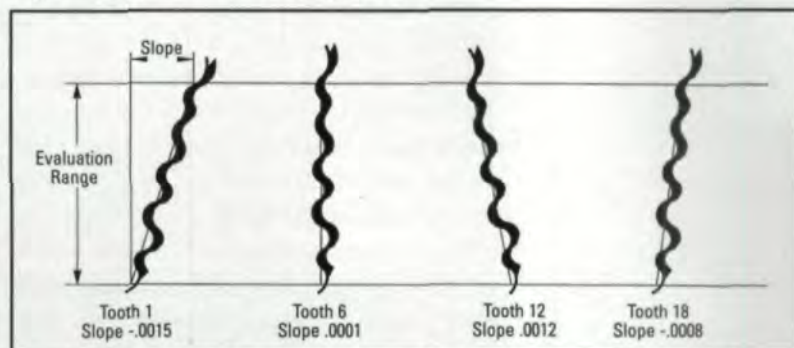

Fig. 3—Excessive slope variation can result from a fixture or blank runout.
such as misalignments with the machine centerline and an inability to center the gear blank properly can increase lead wobble or lead taper. Figure 3 shows an example of lead error affected by a part's axial runout (or radial runout for high helix angle gears). Lack of fixture rigidity is another common factor skewing the gear lead away from perfection. For example, when cutting shafts, the beam between the machine table and the tailstock should be as short as possible to improve the system rigidity. In addition, the fixture should be dynamically stable and be able to absorb the cyclical variation of cutting and clamping forces.
• **Gear blank factor.** Gear blank quality is another factor that can affect the lead variation. Gear mounting surfaces, i.e. bores and faces (for bore gears) or journals (for shaft gears), should be appropriately toleranced as those surfaces have a direct effect on lead quality. An inadequate blank geometry affects the slope component of the gear lead error. Figure 3 is also an example of the slope variation caused by a face-to-bore perpendicularity error. A similar error could result from excessive error in face-to-face parallelism.